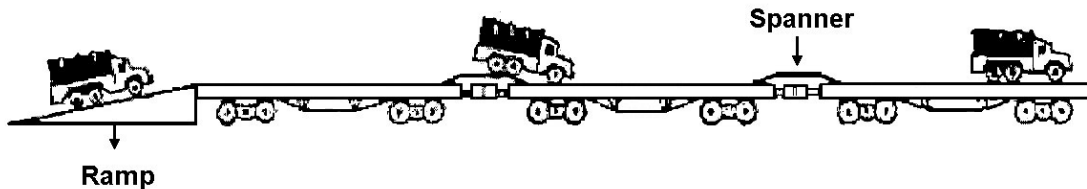

Figure 3-66
1. Place spanners securely in place to bridge the distance between flatcars (see Figure 3-66).
4. Load all vehicles from the rearmost car and position them forward to the assigned position (see Figure 3-66).